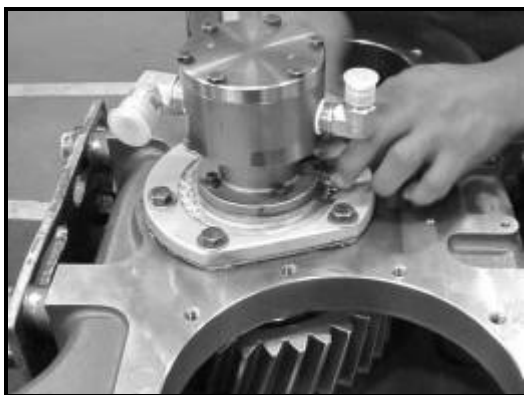

Figure 76
12. Install the oil pump using a gasket and four bolts. Torque to specifications. See **Figure 76**.